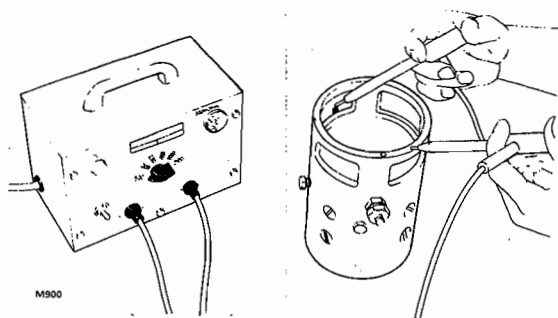

FIG. 6. CHECKING FIELD COIL INSULATION
9. Clean the ring field assembly, ensuring the field coils are free from dirt and oil. Examine the field coils for corrosion or burning. Using a flasher tester set on 500 V, see Figs. 6 and 7, determine if the windings are earthed or shorted to the field ring or pole pieces. If the coils are earthed or shorted, renew the coil assembly.